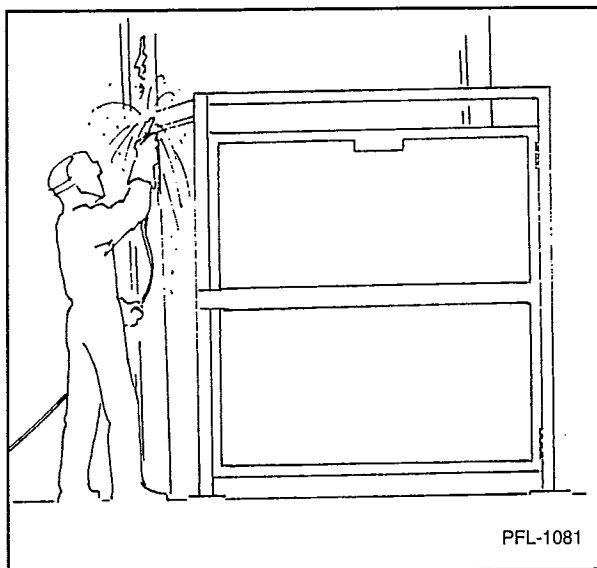

Figure 8
12. Weld angle iron header to gate posts. See Figure 8.